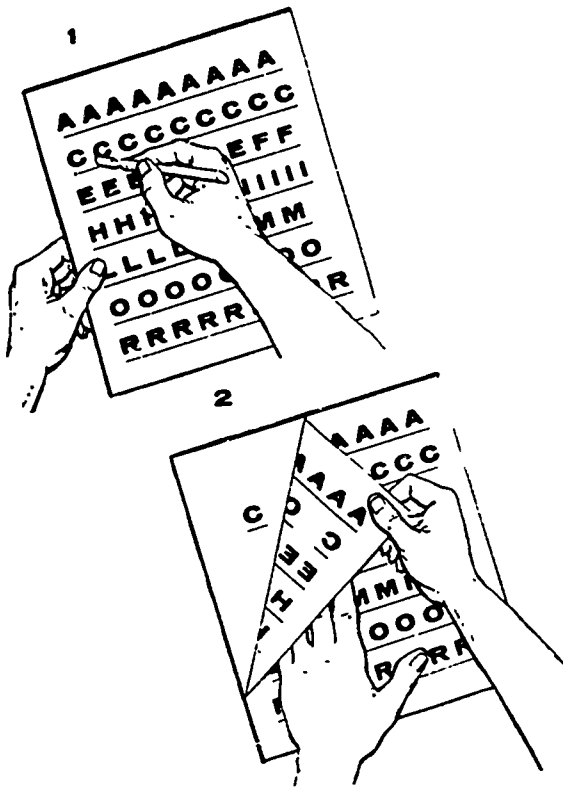

Figure 3-30. Using lettering sheet.
**Lettering Sheets.** When only a few letters or words are needed on a drawing or layout, lettering sheets can be used to great advantage. A large collection of alphabets, numbers, symbols, etc., in various sizes and styles is available under different trade names. These can be applied directly to the finished artwork. The characters are printed on cellophane or acetate sheets with a waxed back and are easily transferred to any smooth surface. You merely position the sheet over the drawing so that the letter to be transferred is correctly positioned, rub the area over the letter, using a glass or plastic burnishing rod, and lift the sheet from the drawing. The letter remains adhered to the paper. This process is shown in figure 3-30.